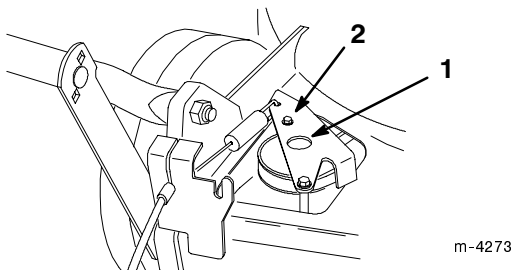

Figure 21
4. Push down on the drive bracket until it contacts the lawn mower, then hold it in place (Fig. 21).
5. While holding the drive bracket down, pull the cable jacket down (toward the lawn mower) until the upper handle retracts as far as possible and there is no slack in the cable (Fig. 21).